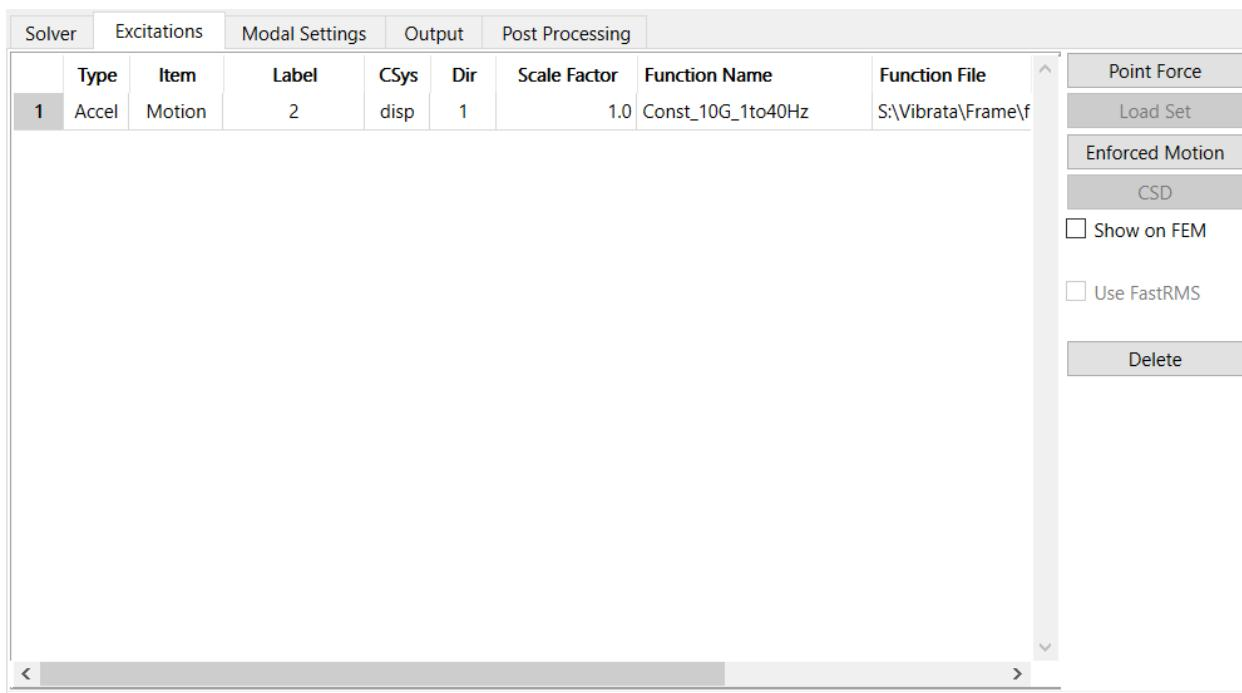

Figure 4-31. *Excitations* tab with resulting enforced motion definition.
e. Select the constant forcing function for the first event. Your *Excitations* tab should look like Figure 4-31. Note that the excitation, because it is an enforced motion, is taken to be in the driven node's displacement coordinate system.